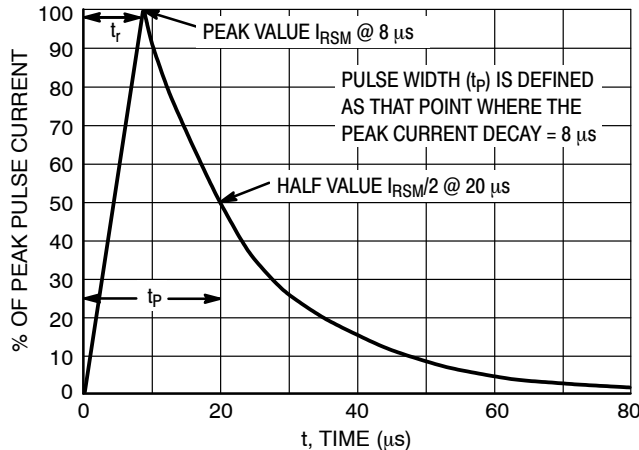

Figure 5. 8 x 20 μs Pulse Waveform
3. Surge current waveform per Figure 5.